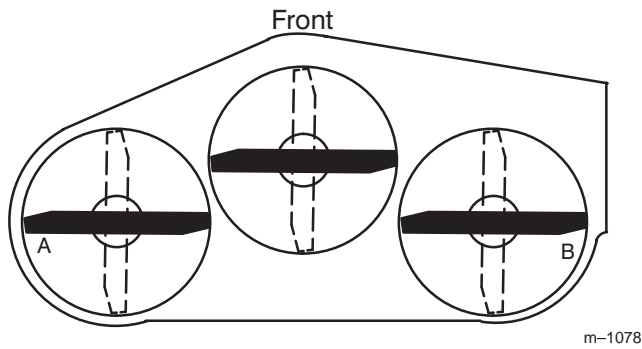
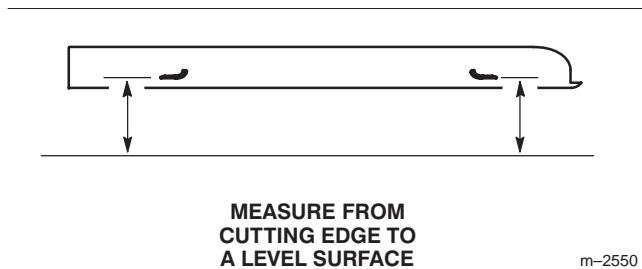

Figure 53
Figure 54
2. Position the blades side-to-side (Fig. 53). Measure at "A" and "B" locations (Fig. 53) from a level surface to the cutting edge of blade tips (Fig. 54).